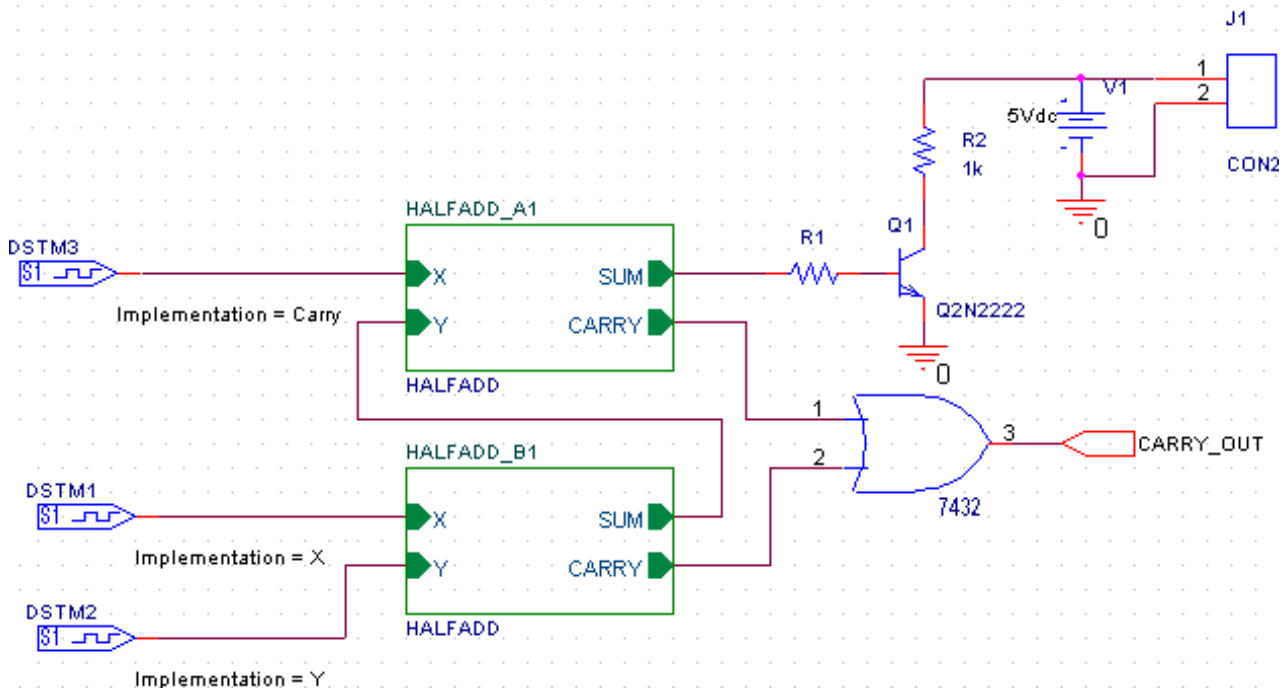

Figure 2-3 Full adder circuit with output through a transistor
- 4 From the part list, add resistor R. Place this resistor on the schematic and connected one end of the resistor to the SUM port of HALFADD_A1. See Figure 2-3 on page 28.
- 5 From the EVAL.OLB, select Q2N2222 and place it on the schematic. See Figure 2-3 on page 28.
- 6 Complete the circuit by adding a collector resistance, Collector Voltage, and ground. See Figure 2-3 on page 28.
- c. Place the voltage source on the schematic. See Figure 2-3 on page 28.
- d. Place the ground symbol on the schematic. See Figure 2-3 on page 28.